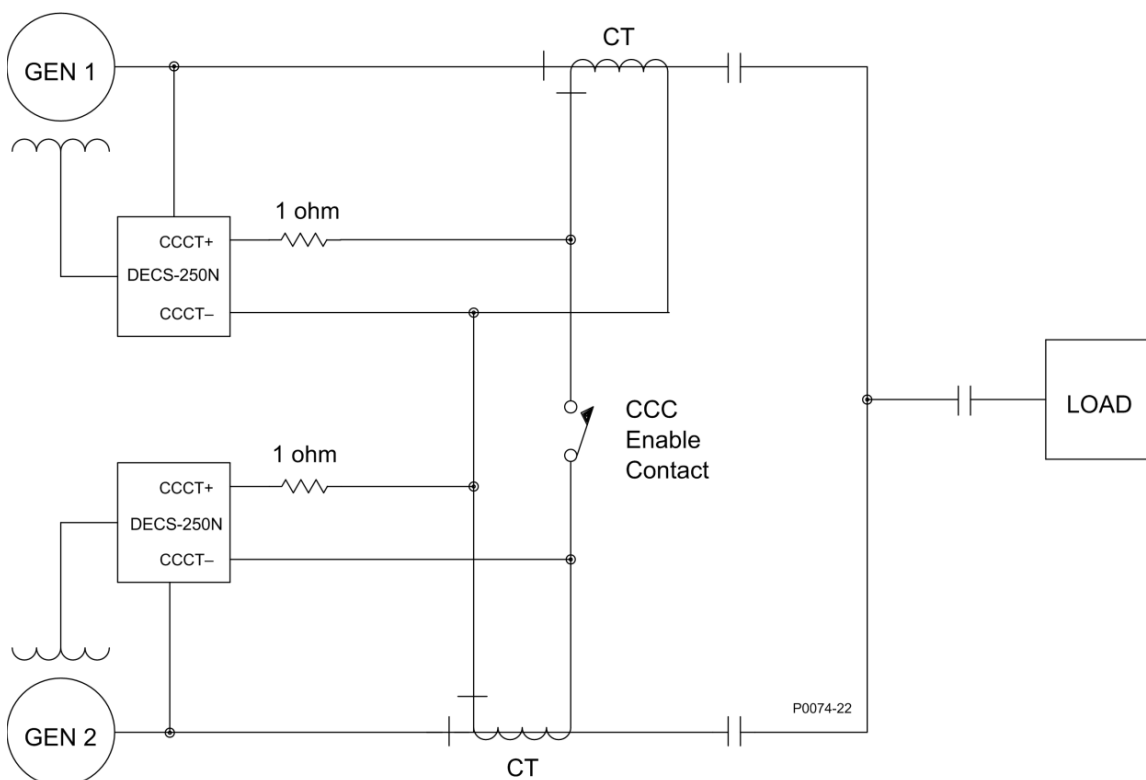

Figure 7. Connections for Cross-Current Compensation
Cross-current compensation (reactive differential) mode allows two or more paralleled generators to share a common load. As shown in Figure 7, each generator is controlled by a DECS-250N using the DECS-250N cross-current compensation input (terminals CCCT+ and CCCT-) and a dedicated, external current transformer (CT) to sense generator current. The resistors shown in Figure 7 are used to set the burden and may be adjusted to suit the application. Ensure that the power rating of the resistors is adequate for the application.